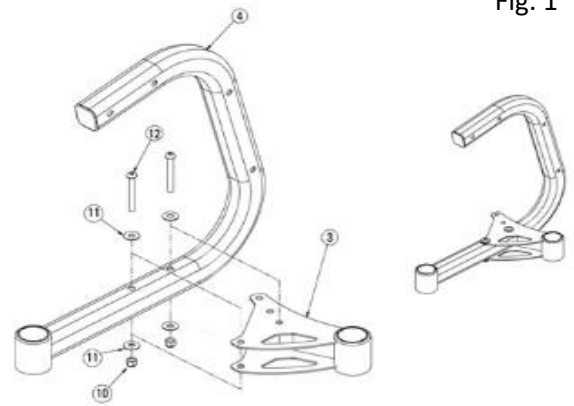

Fig. 2
Attach the rear right stabilizer (3) to the stand leg (4) using the hardware shown in figure 2.